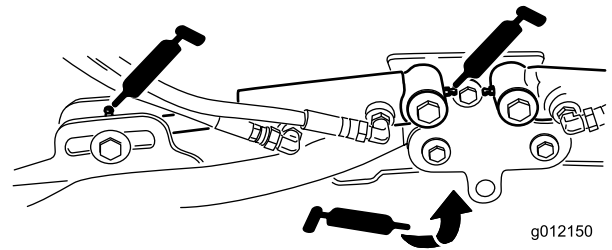

Figure 48
- Cutting-unit lift-arm cylinders (2 each) (Figure 48)
- Lift-arm pivots (1 each) (Figure 48)